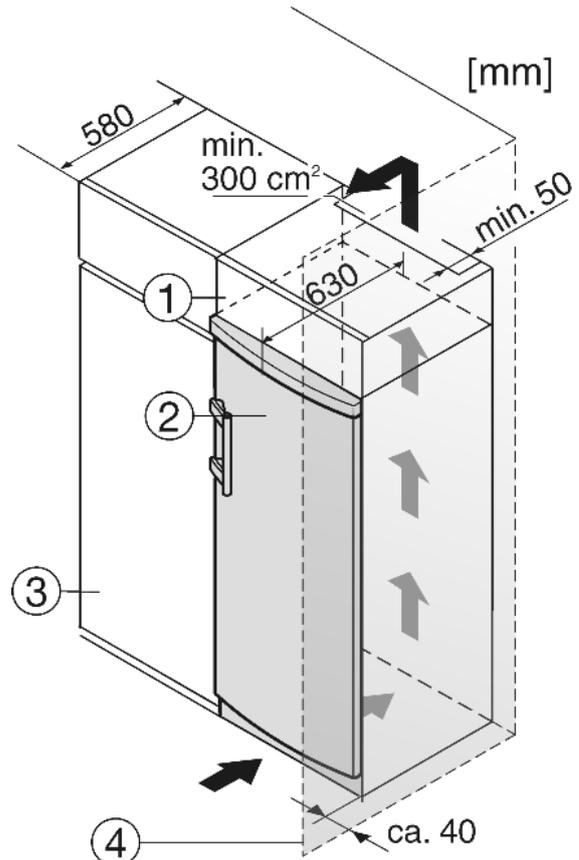

Fig. 7
- (1) Stack cabinet
- (2) Appliance
- (3) Kitchen cabinet
- (4) Wall
The appliance can be built into kitchen units. A top cupboard Fig. 7 (2) can be added above the appliance in order to bring the appliance Fig. 7 (1) up to the height of the fitted kitchen units.
When retrofitting with kitchen cabinets (max. depth 580 mm) the appliance can be installed directly next to the cabinet Fig. 7 (3). The appliance door projects 34 mm from the front of the kitchen cabinet at the side and 50 mm at the centre of the appliance. This is so that it can be opened and closed easily.
If the appliance is installed with the hinges next to a wall Fig. 7 (4), the distance between appliance and wall has to be at least 40 mm. This corresponds to the projection of the handle when the door is open.